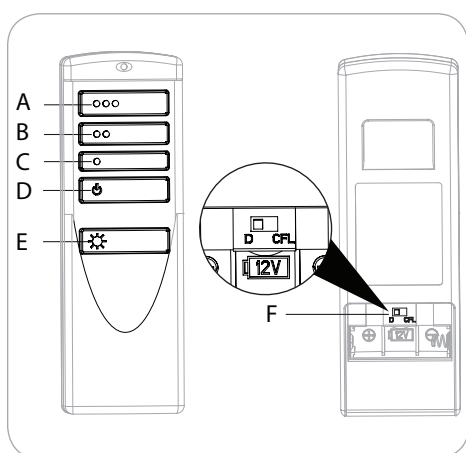

Figure 6.1
- F - **D/CFL Switch:** Switch should be set to “D” to correspond with the included LED bulbs, which will enable the dimming function. Flip to “CFL” if you change to non-dimmable bulbs. (Figure 6.1).